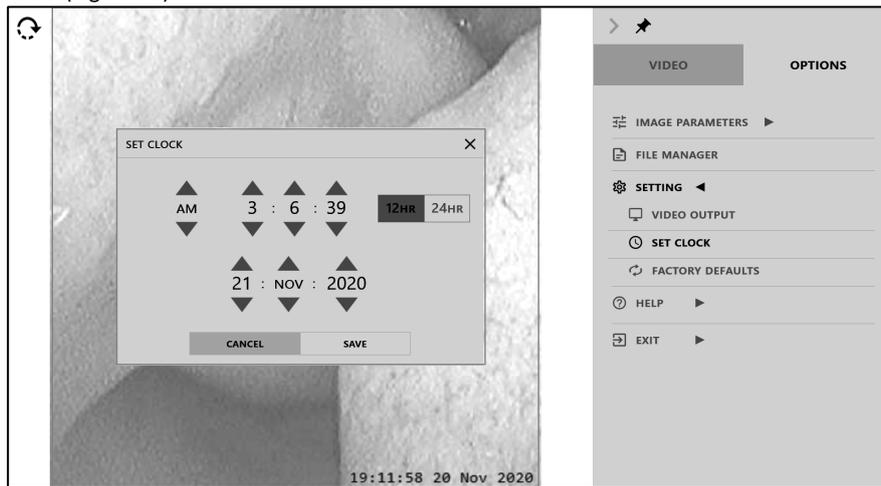

Figure 13 – Clock Setting Screen
4.2. SET CLOCK window (Figure 13) enable to set the date and time.